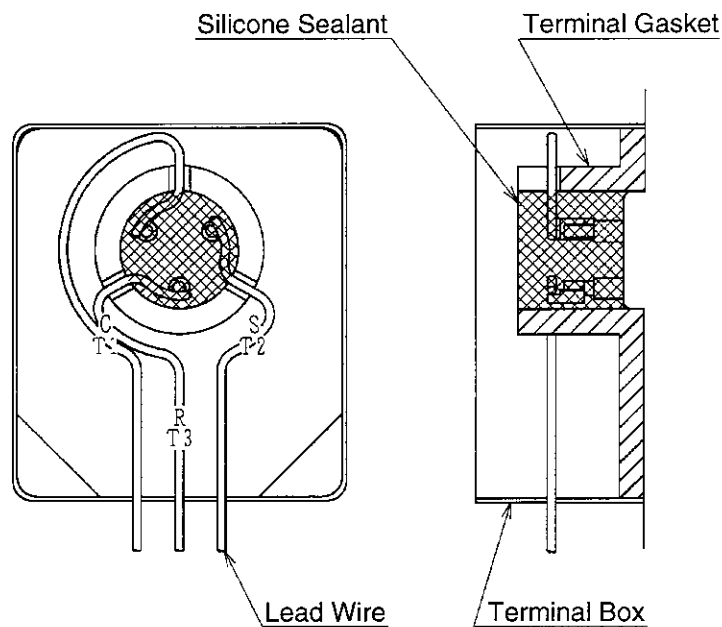

Fig. 1
Be sure to reapply the recommended treatment at the Compressor terminal and its vicinity. Otherwise operation of the icemaker at a high temperature and high humidity can cause an electric shock or fire, or generate corrosion and shorten the service life. See Fig. 1, page 37.
- 18) Fill the recommended silicone sealant (RTV 162, GE Silicones) into the cylindrical part of the Gasket up to the top end. See Fig. 1.